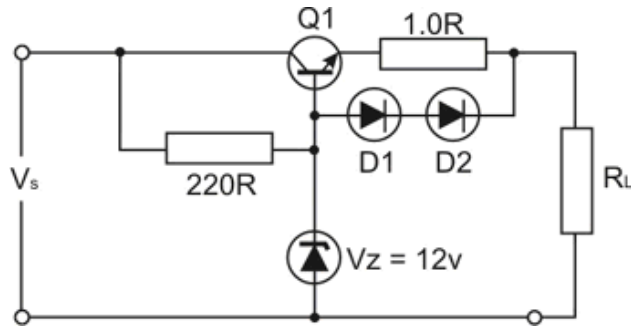

Figure 16.
1. For the circuit of Figure 16: